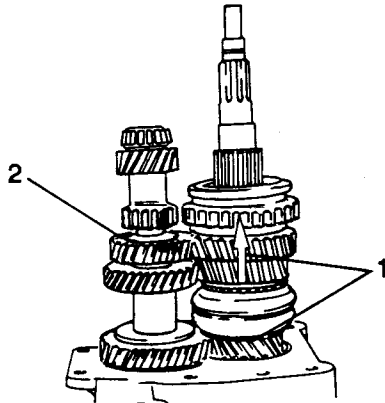

Fig H1.73
- (2) Refer to Fig H1.73. Remove the mainshaft assembly (1) by sliding it upwards, firstly displacing the 4th gear synchro cone from the 4th gear cone.